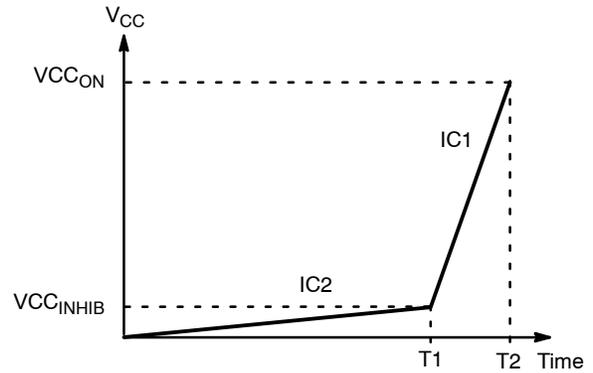

Figure 16. Dual Startup Current Source
- The startup time (see Figure 16)